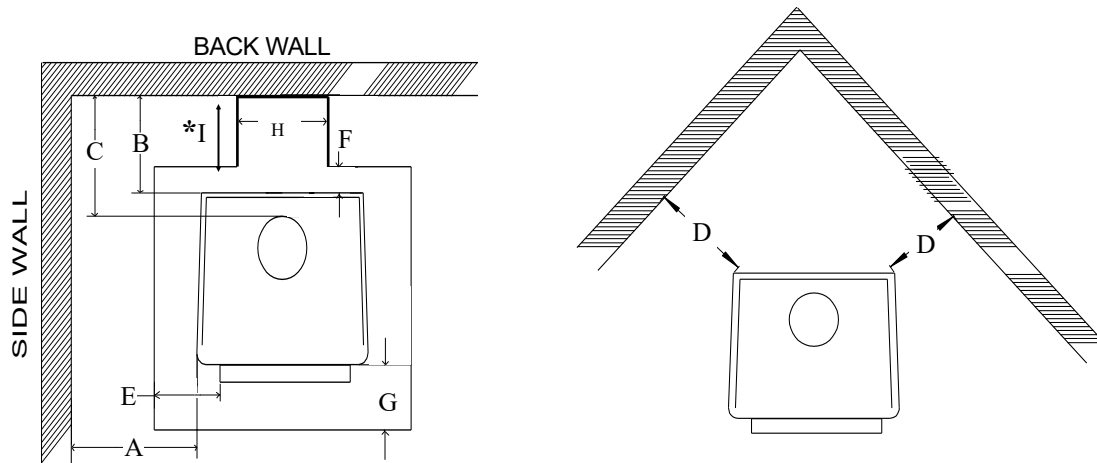

Figure 19
* For wall exit, floor protector must be under horizontal pipe full length of pipe. There must be 2" on each side of pipe. Maintain 18" between pipe and ceiling. (See Figure 19, measurements F & *I).